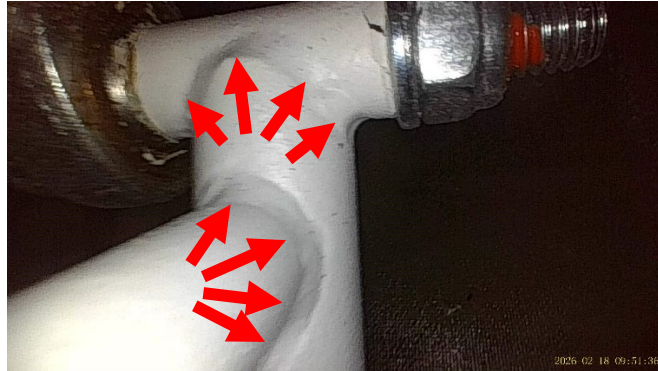

Figure 6 - Weld seams are applied **continuously** around the **entire circumference** of all tube contact points.
1. Remove air brake limiter bolt (index 1 on Fig. 6).